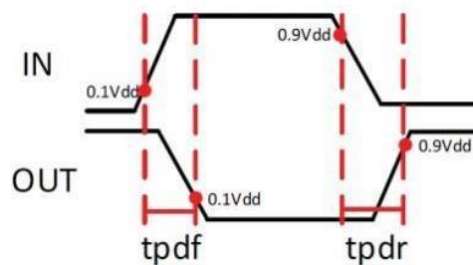

Fig. 2
- (b) Please design the size and stage of the inverter chain to reach tpdf and tpdr < 1ns. (tpdf and tpdr definition: Fig 2.) (10%)
2. Please design a 3-to-8 decoder with output loading 300fF at each output node (as shown in Fig. 2) and try to add an inverter buffer to **minimize the delay from input to output of the decoder**. VDD = 1.8V, and the size of the first inverter has been assigned. (the rising time and falling time of input A[0],  $\bar{A}[0]$  is 0.01ns & input frequency = 20MHz, the rising time and falling time of input A[1],  $\bar{A}[1]$  is 0.01ns & input frequency = 40MHz, the rising time and falling time of input A[2],  $\bar{A}[2]$  is 0.01ns & input frequency = 80MHz) (60%)